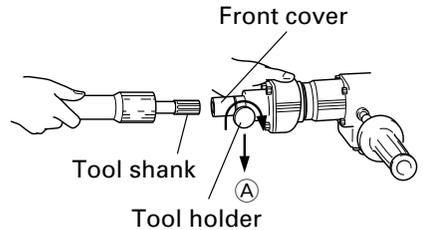

Fig. 3
- (1) Clean, then smear the tool shank with the grease provided.
- (2) Slide the tool holder in the direction of arrow (A) and rotate it 180°. Turn the notch of the tool shank downward and insert it fully into the hexagonal hole of the front cover. (Fig. 3)
- (3) Turn the tool holder and align the front cover mark with the tool holder mark to secure.